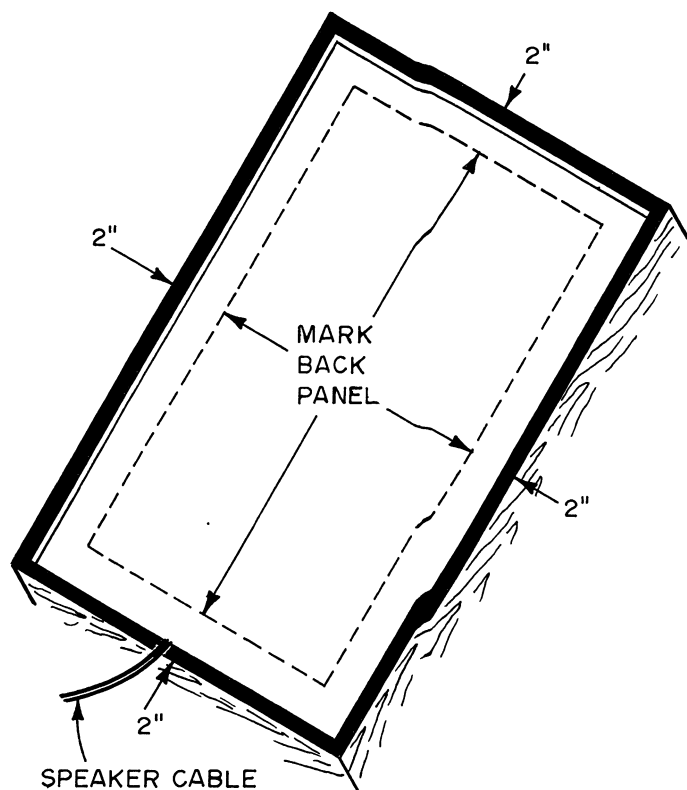

FIGURE 12 – MARKING BACK PANEL
2. Draw four (4) straight lines on existing cabinet back as illustrated (by dash lines) in Figure 12. The lines must be at least 2" from, and parallel with, the outer edges of side, top and bottom panels.